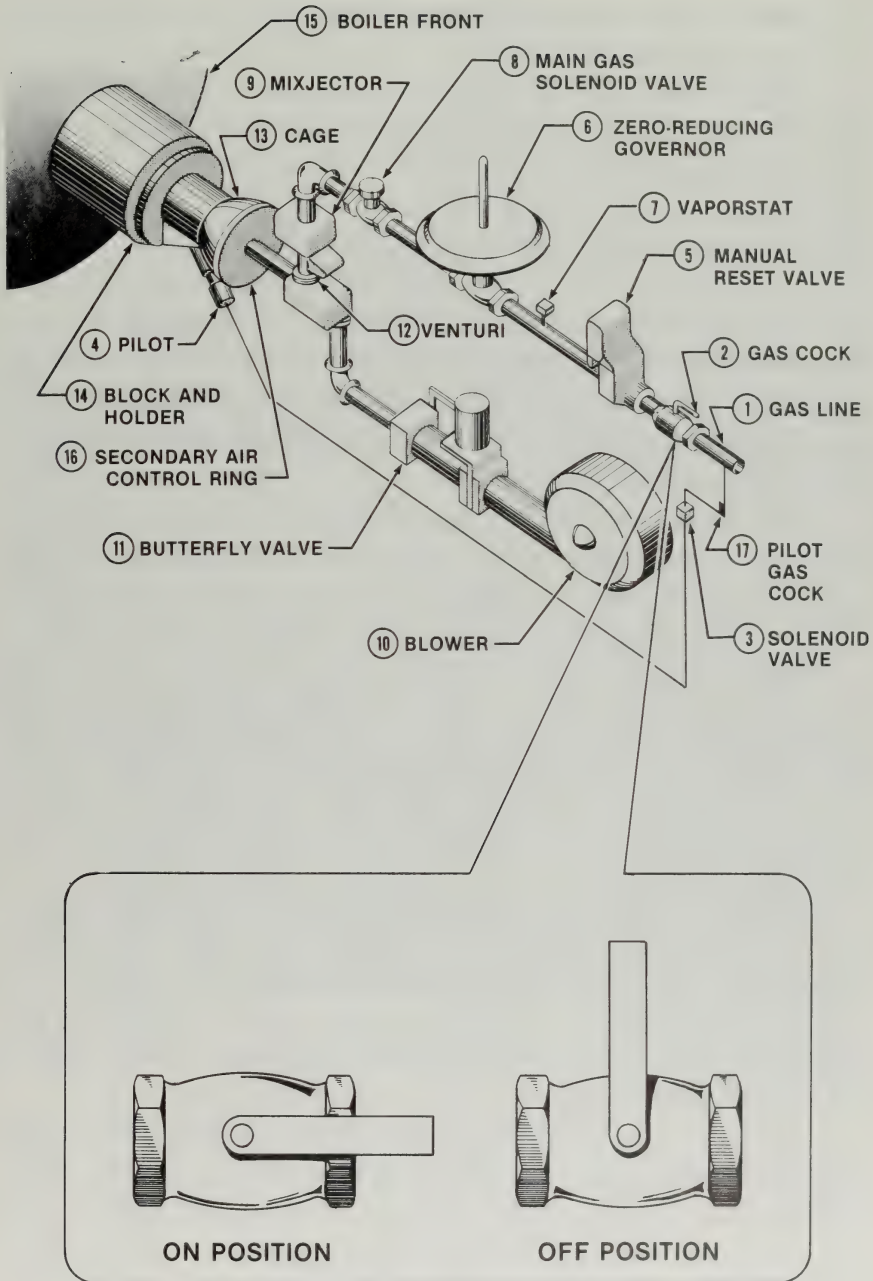

Figure 5-12. The low pressure gas system uses gas reduced to 0 pressure drawn into the mixing chamber.
Air passing through the mixing chamber draws gas and provides the air and gas mixture required. See Figure 5-12. The gas line (1) is fitted with a main gas cock (2) that allows the operator to close (cut off) gas to the system when doing any repairs. *NOTE:* The main gas cock is open when the handle is in line with the piping. A solenoid valve (3), which is an electric valve, controls the gas to the pilot (4). The manual reset valve (5) is an electric valve that cannot be opened until the gas pilot is lighted.